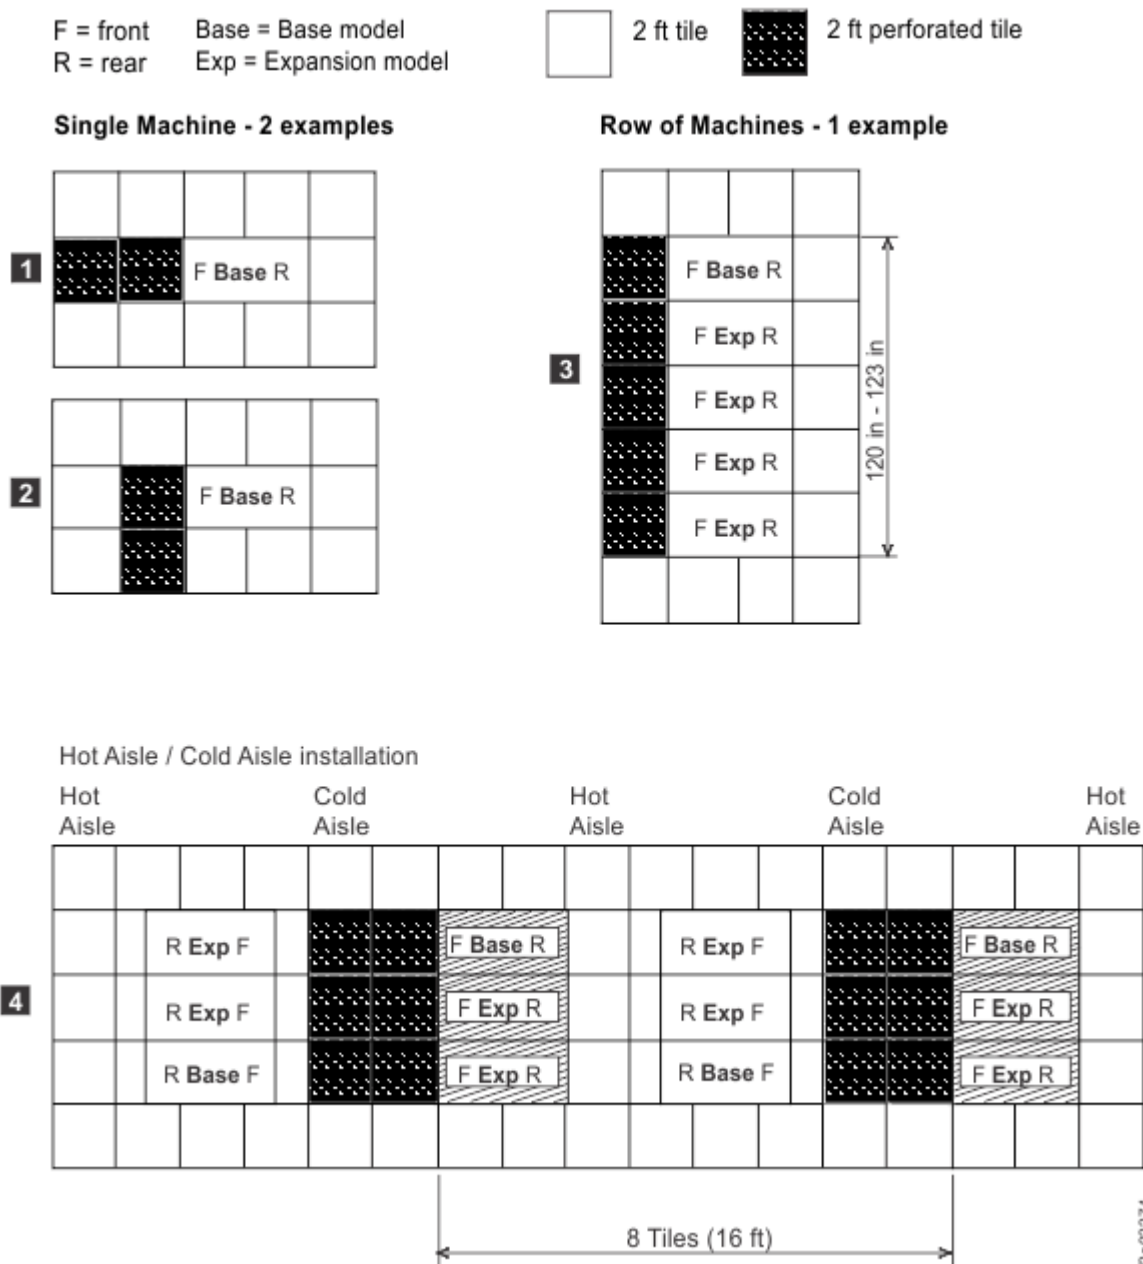

Figure 13. Typical rack and perforated tile locations for hot and cold aisles
- a. For stand-alone base frames, install two fully perforated tiles in front of each base frame, as shown in Figure 13 on page 103 in the single-machine examples (**1** and **2** in the figure).
- b. For a row of storage systems, install a row of perforated tiles in front of the storage systems as shown in Figure 13 on page 103 (**3** in the figure).
- c. For groupings of storage systems, where a hot aisle/cold aisle layout is used, use a cold aisle row of perforated tiles in front of all storage systems. An example of a possible minimal arrangement is shown in Figure 13 on page 103 (**4** in the figure).
Note: Keep in mind that the example represented in Figure 13 on page 103 meets service clearance requirements. However, floor loading requirements might require a wider hot aisle to provide up to 30 inches of non-overlapping clearance (for total of 60 inches between the rear side of the frames on either side of the aisle.)